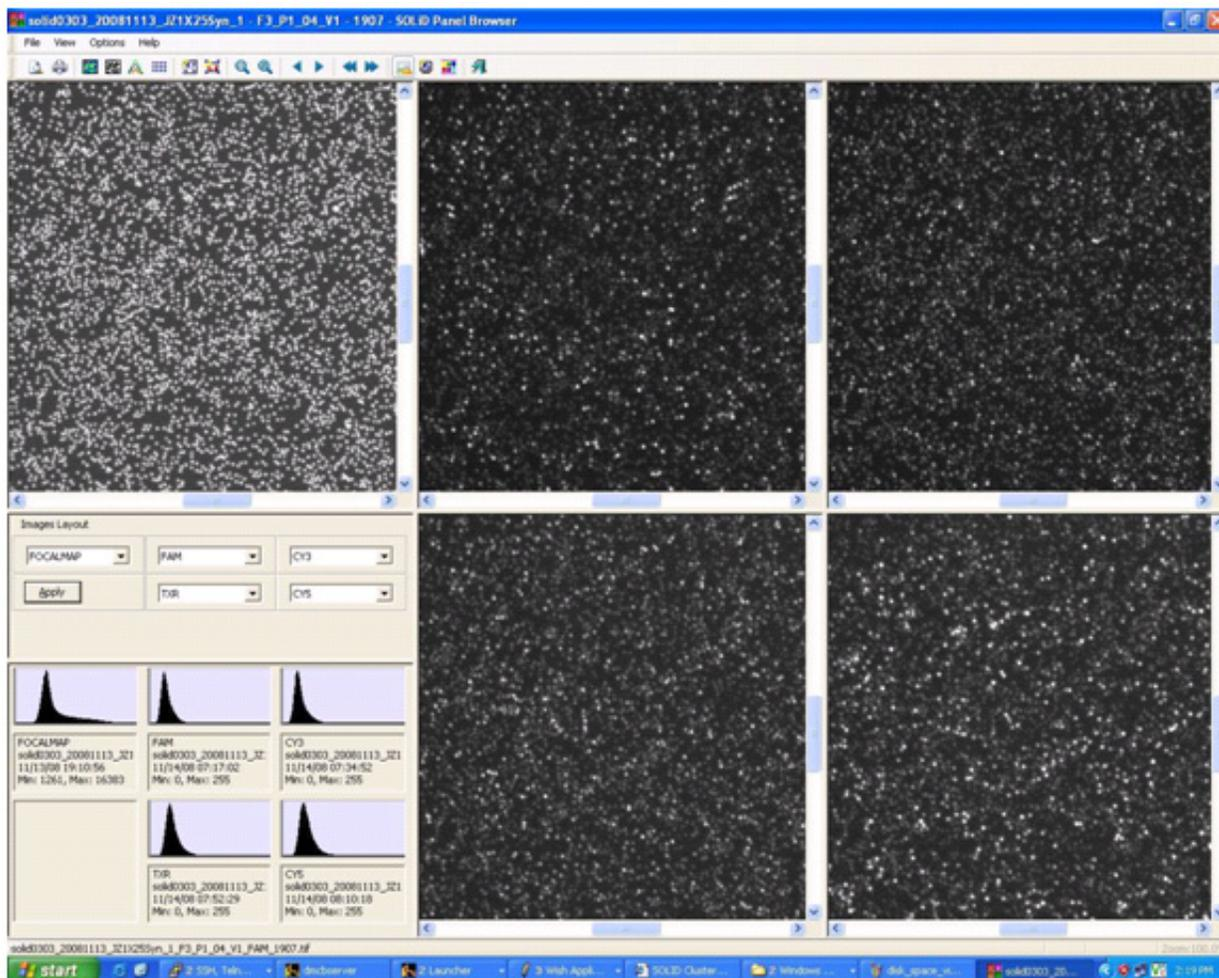

Figure 66 View the focal map and the image for each fluorescent dye signal.
3. Left-click any square panel on the heat map to open the panel browser window. The panel browser allows you to view the focal map and the image for each fluorescent dye signal (see Figure 66 on page 83).